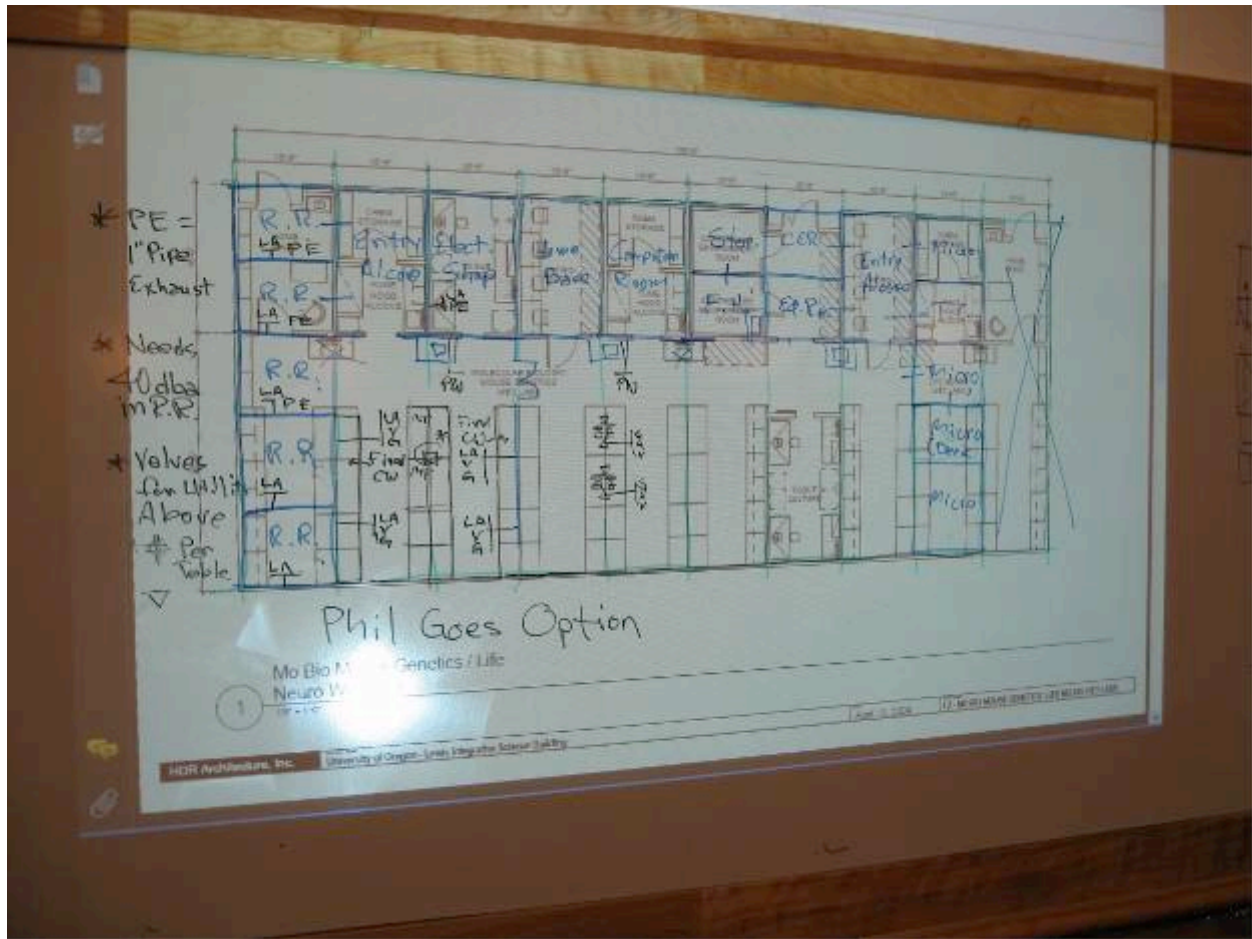

Figure 2
- (4) 110V outlets per workstation
12. Valves for service utilities to be located above lab tables in open labs – *refer to Figures 2 & 3*